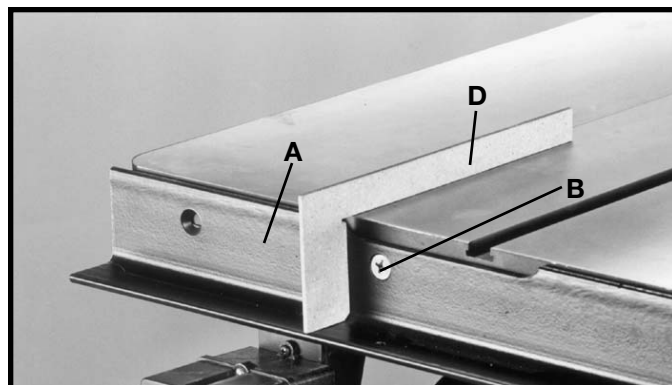

Fig. 89
2. Using template (D) Figures 89 and 90, to check and adjust front rail at both ends of the saw table as shown, to make sure rail (A) is parallel with table surface and tighten rail mounting hardware (B). **IMPORTANT: Template (D) must be on the saw table when checking, not on extension wing.**